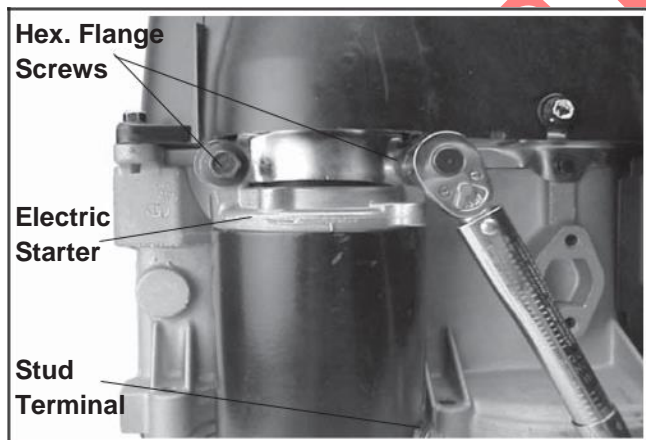

Figure 11-69. Installing Bendix Drive Starter.
1. Install the starter and secure with the two hex. flange screws. If there were spacers on the mounting screws, be sure they are reinstalled. Torque the screws to **15.3 N·m (135 in. lb.)**. See Figure 11-69.